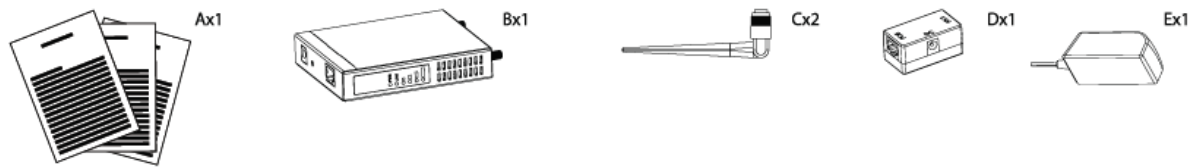

Figure 1 – APC 5Mi V2 Package Contents
- Step 2.** Connect omni antennas (item C in the *Figure 1 – APC 5Mi V2 Package Contents*), Ethernet cable and power adapter (item D and E in the *Figure 1 – APC 5Mi V2 Package Contents*), to the APC 5Mi V2: